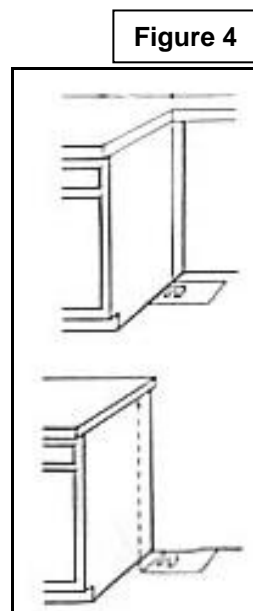

Figure 4
2. Place this template on floor in cabinet opening so that the left edge is against cabinet and top edge is against rear wall, molding or cabinet. (See Figure 4)
4. If countertop is deeper than 25" (63.5 cm), measure and mark a distance of 25" (63.5 cm) in from front of countertop and align template with mark. (See Figure 4)